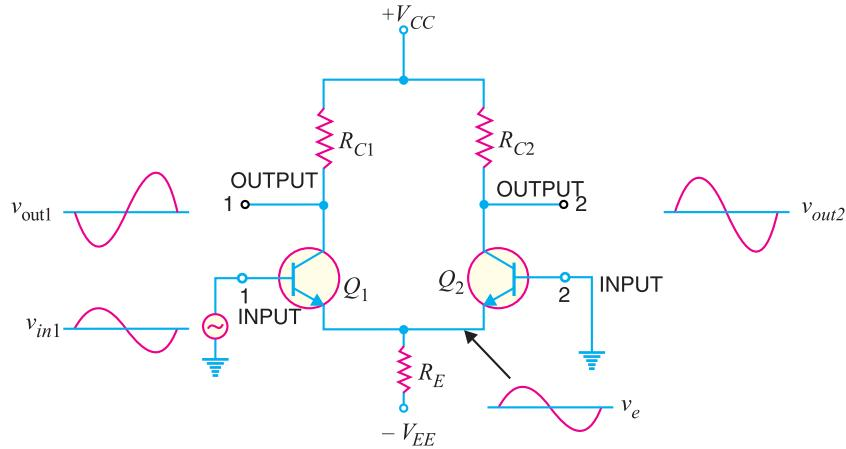

Fig. 25.5
- (i) Suppose the signal is applied to input 1 (*i.e.*, base of transistor  $Q_1$ ) and input 2 (*i.e.*, base of transistor  $Q_2$ ) is grounded as shown in Fig. 25.5. The transistor  $Q_1$  will act in two ways : as a common emitter amplifier and as a common collector amplifier. As a common emitter amplifier, the input signal to  $Q_1$  (input 1) will appear at output 1 (*i.e.*, collector of  $Q_1$ ) as amplified inverted signal as shown in Fig. 25.5. As a common collector amplifier, the signal appears on the emitter of  $Q_1$  in phase with the input and only slightly smaller. Since the emitters of  $Q_1$  and  $Q_2$  are common, the
emitter signal becomes input to  $Q_2$ . Therefore,  $Q_2$  functions as a \*common base amplifier. As a result, the signal on the emitter of  $Q_2$  will be amplified and appears on output 2 (i.e., collector of  $Q_2$ ) in phase with the emitter signal and hence in phase with the input signal (signal at input 1). This is illustrated in Fig. 25.5.
- (a) When signal is applied to input 1 (i.e., base of transistor  $Q_1$  in Fig. 25.5), an inverted, amplified signal appears at output 1 and non-inverted, amplified signal appears at output 2. Reverse happens when signal is applied to input 2 and input 1 is grounded.